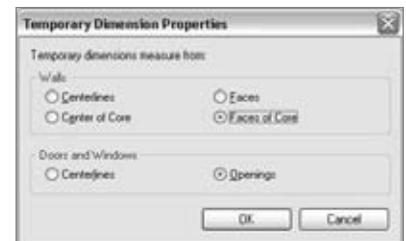

Figure 4.96
2. In the Walls options, select Faces of Core; in the Doors and Windows options, select Openings, as shown in Figure 4.96. Click OK to finish.